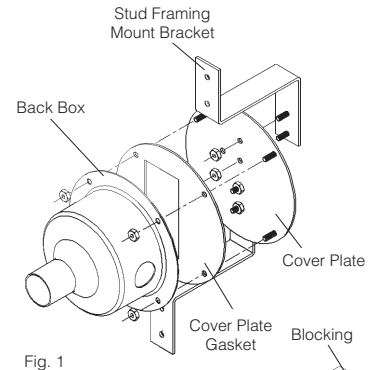

Fig. 1
- Install the (2) stud framing mounting brackets provided as shown in Fig.1.